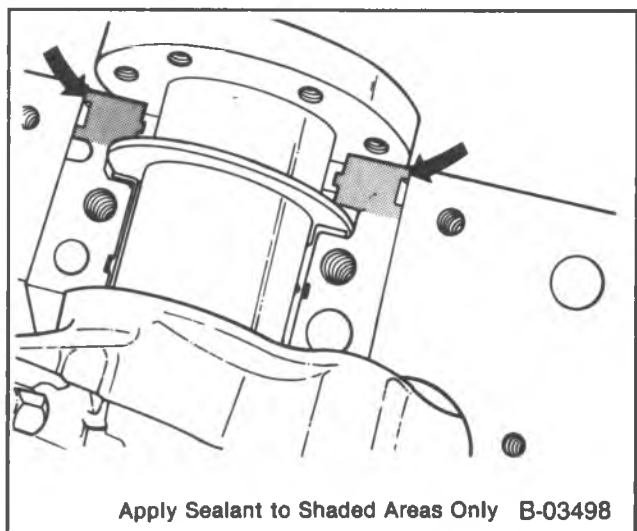

Figure 25 — Applying Sealant To The Block
- Apply a brush-on type oil sealing compound to the mating surface of the block and cap (figure 25). Do not allow any sealant on either crankshaft or rear oil seal.